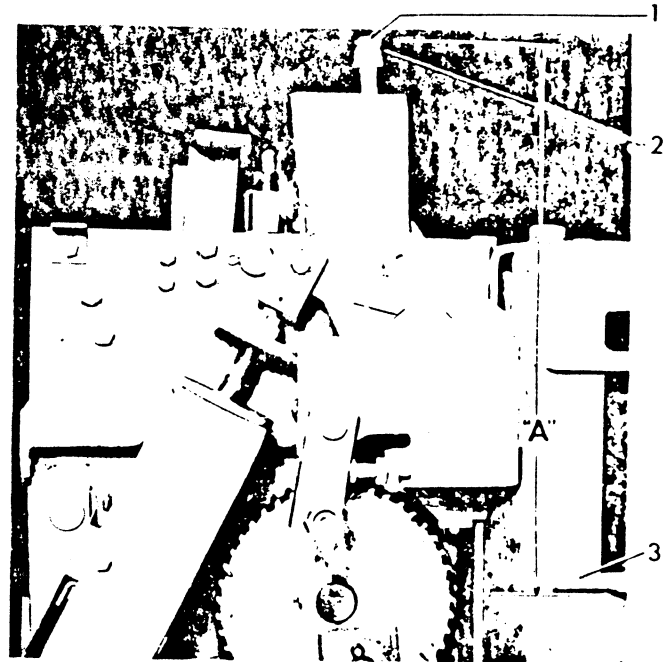

Figure 14. (8034464) Plunger Interlock
Refer to Figure 14. With the breaker in the closed position, the vertical distance "A" from the top of the plunger bolt (1) to the bottom of the breaker lifting rail (3) should be $11-7/32$ " to $11-11/32$ ". To change this adjustment add or remove washers (2).